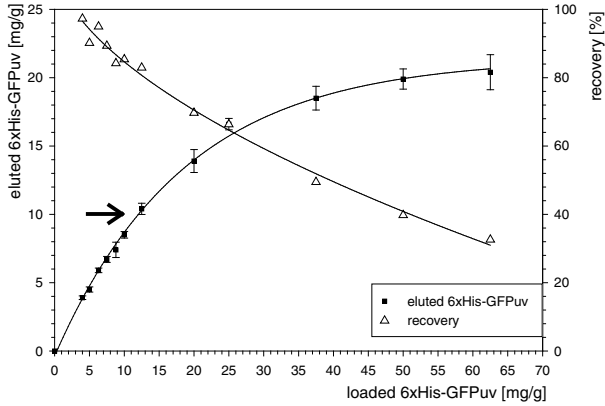
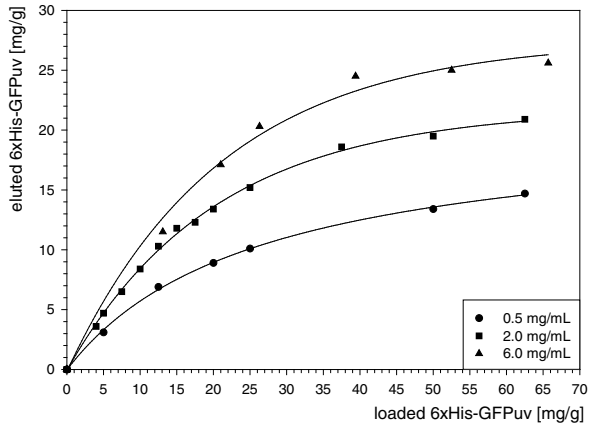

Figure 2 Binding behaviour of 6 x His-GFPuv to Protino® Ni-TED Resin
Figure 3 Binding behaviour of 6 x His-GFPuv to Protino® Ni-TED at different concentrations of the polyhistidine-tagged protein in the sample
The binding behaviour of any polyhistidine-tagged protein to Protino® Ni-TED can be examined by calculating the amount of protein that is eluted as a function of the amount of protein that has been loaded (see figure 2). Please note that the resulting graph will vary in dependence on characteristics and concentration of the individual His-tag protein. The binding curve can be divided in three stages:
- 1. Stage of maximum recovery.** At this stage the loaded protein is bound to the resin nearly quantitatively and can be eluted nearly quantitatively, too (the binding curve is almost linear, see figure 2, • eluted His-GFPuv).
Figure 2 shows a plot of the amount of eluted 6 x His-GFPuv against the amount of loaded 6 x His-GFPuv. The binding curve can be divided in three stages:
Under the above mentioned conditions the binding capacity of Protino® Ni-TED for 6 x His-GFPuv is approximately 10 mg protein per g of resin (see arrow, Figure 2). At this point the protein recovery is > 80 %. Consequently the following amounts of 6 x His-GFPuv have to be loaded: For optimal recovery: load ~ 10 mg protein per 1 g of Protino® Ni-TED Resin, for maximum yield: load ~ 60 mg protein per 1 g of Protino® Ni-TED Resin.
Recovery rates and yield can be increased by using samples containing higher concentrated polyhistidine-tagged protein (6 x His-GFPuv). Figure 3 shows that the yield of purified polyhistidine-tagged protein is not only depending on the total amount of target protein loaded on the column (also see figure 2) but also on its concentration in the lysate. Consequently the concentration of target protein in the sample should be as high as possible.